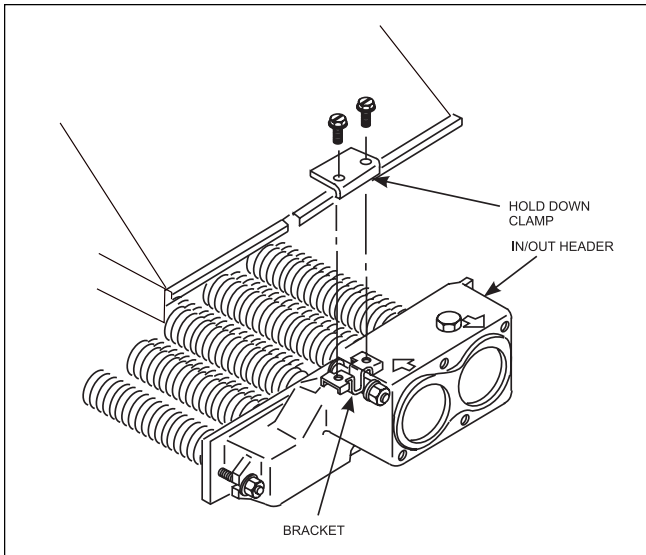

Figure 8. Flue collector hold-down brackets
5. Remove the screws securing the two flue collector hold down clamps and remove the clamps (see Figure 8). Remove flue collector.